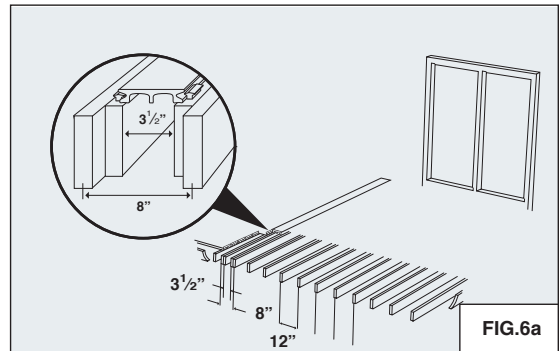

FIG.6a
- A breaker board is a single Aura deck board that runs perpendicular to the decking. (REFER TO FIG.6a & 6b)